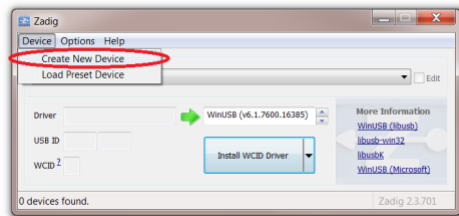

Figure 1. Create new USB device in Zadig
4. Under the "Device" menu select "Create New Device". See Figure 1.
9. Under the "Device" menu select "Create New Device". See Figure 1.